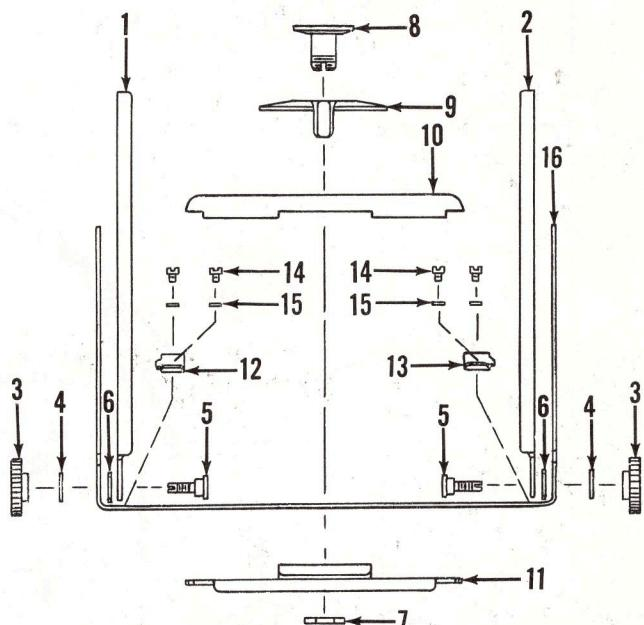

Figure 9A. FRONT STANDARD ASSEMBLY
g. Remove finder complete (16) from base frame of bellows complete (17).
a. Assemble finder complete (16) in base frame of bellows complete (17).
b. Assemble left stile assembly (13), using two machine screws (15) and two machine nuts (14).
c. Assemble right stile assembly (10), using two machine screws (12) and two machine nuts (11).
d. Assemble two lower locks (9) and two upper locks (8).
e. Assemble shutter trip crank (7), solenoid assembly (6) and front frame assembly (5).
f. Apply paraffin to two sliding surfaces of two front frame locking studs (4) and assemble studs in opening between bellows base frame and front frame assembly.
g. Spread two sides of front standard assembly (18) and assemble the above sub assembly, using flat washer (3) between front standard and supports on two sides.
h. Assemble two flat washers (2) and two locking knobs (1). Stake ends of locking studs (4).
U.1. FRONT STANDARD ASSEMBLY - DISASSEMBLY AND REASSEMBLY (Figure 9A)
- Remove right support (1) and left support (2) by removing locking knobs (3), flat washers (4),